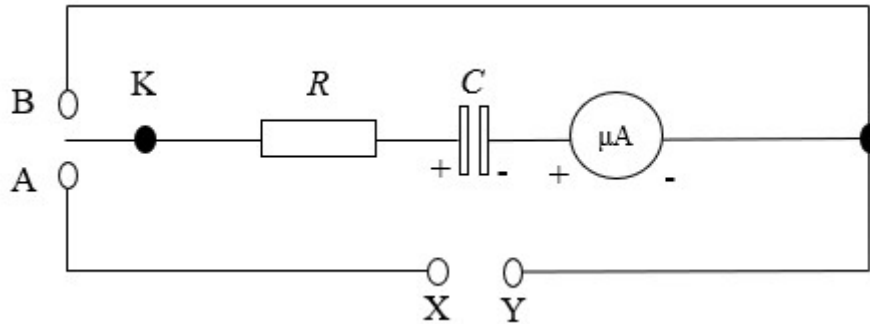

Figure 5
1. Connect the circuit as shown in Figure 5. Connect the DC supply across terminals X and Y (ensure the voltage rating of the supply matches that of the capacitor).